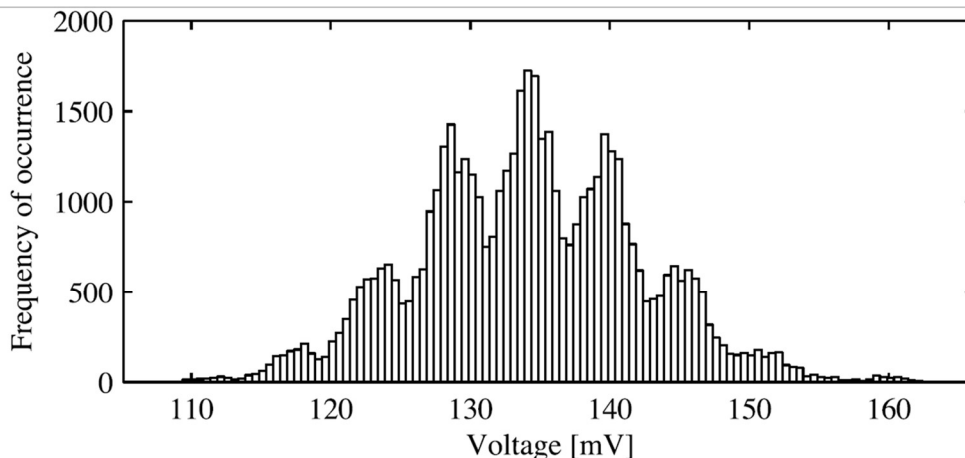
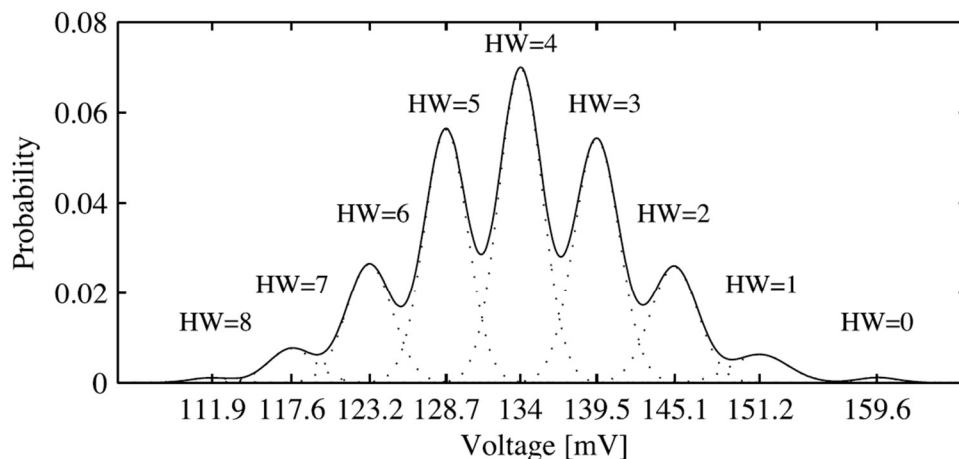

Figure 4.4. Histogram of the power consumption at 362 ns if different data values are transferred from the internal memory to a register.
Figure 4.5. The distribution of the power consumption when the microcontroller transfers different data from the internal memory to a register.
- 1) (20 pts.) Explain using your own words what are the nine different Gaussian distributions which compose the energy consumption histogram above. Explain how and why the nine distributions are combined as well as the source of each Gaussian distribution. Include in your explanation the following terms and concepts: $\{D_i\} = D_0 \dots D_{255} = 8\text{-bit data values}$; HW = Hamming Weight (a.k.a. Hamming Distance from all zeros); μ = mean; and σ = standard deviation. Please define and explain any additional terms you utilize. You may refer to the figure on the next page, Figure 4.5, in your answer to explain the power histogram shown in Figure 4.4 above.